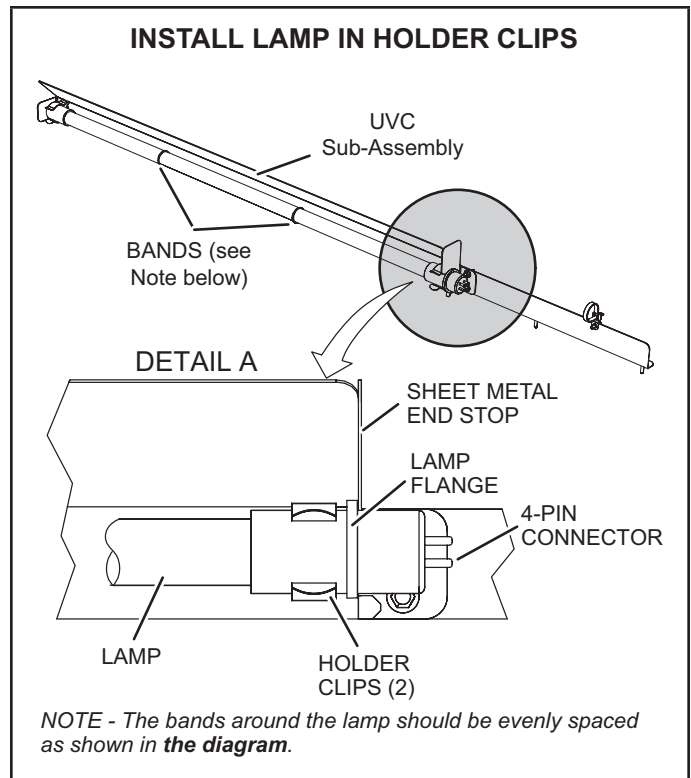

FIGURE 46
- 5 - Remove the (2) mounting screws of the UVC assembly. Carefully slide the complete UVC assembly out through the blower access door.
- 7 - Wear cotton gloves or use a cotton cloth when handling the new lamp. Place the new lamp in the holder clips of the UVC assembly. Verify that the lamp flange at the connector end is sandwiched between the lamp holder clip and the sheet-metal end stop (see FIGURE 46).